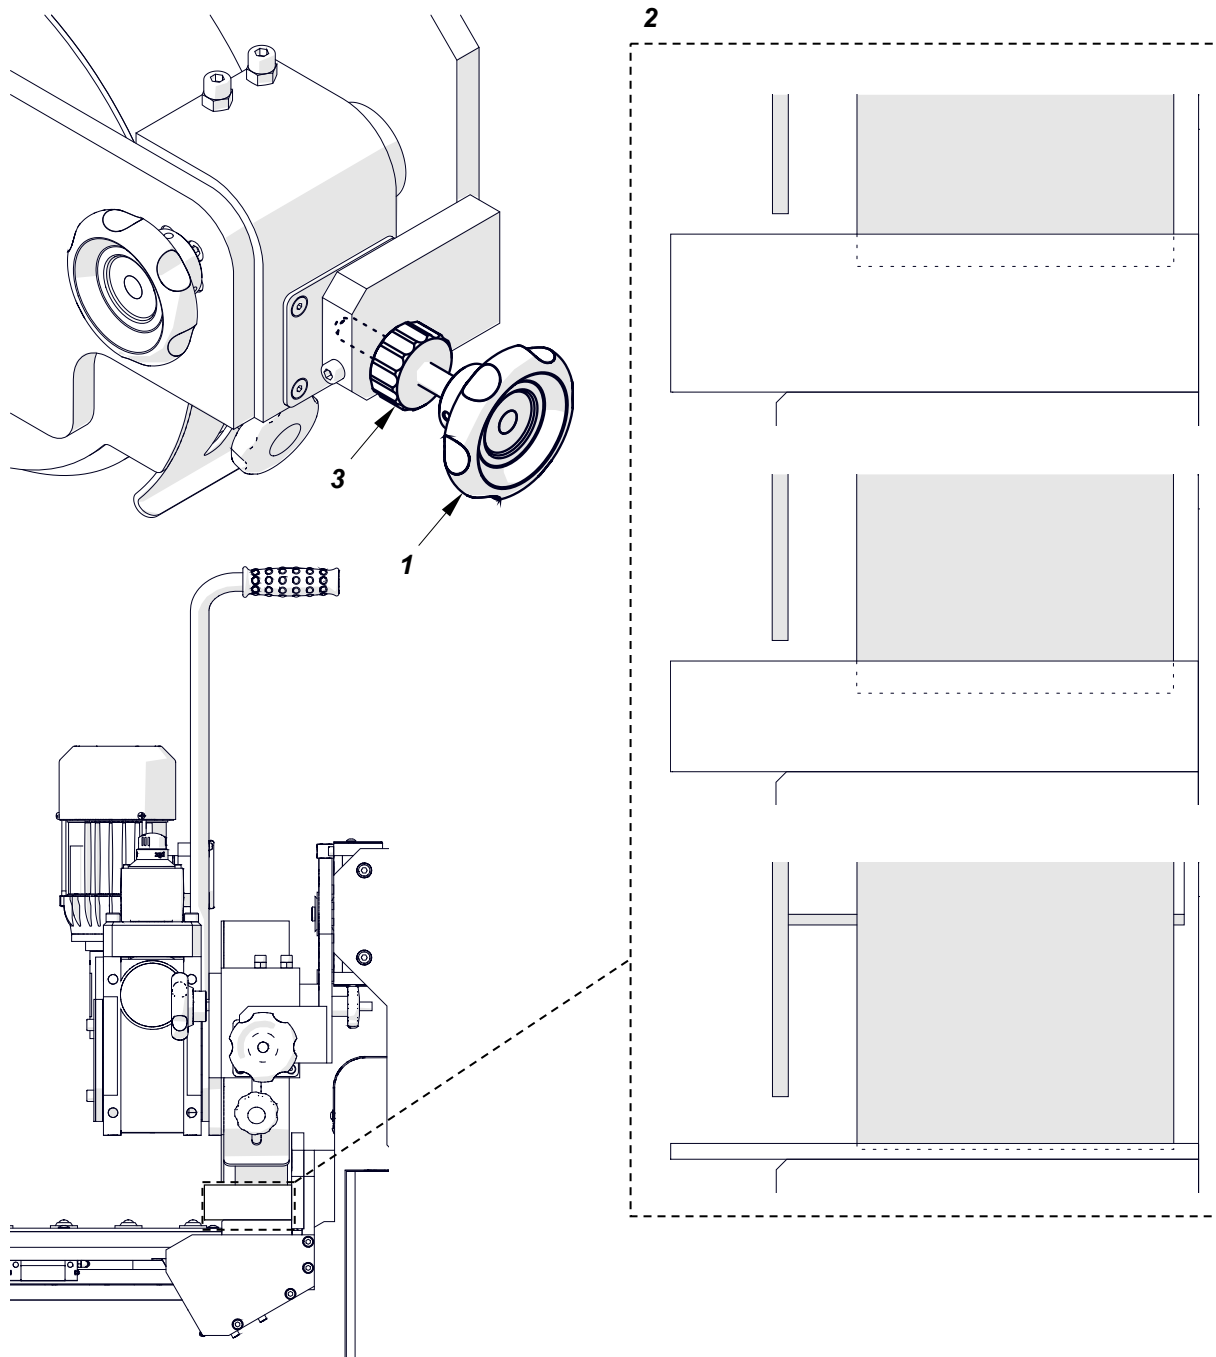
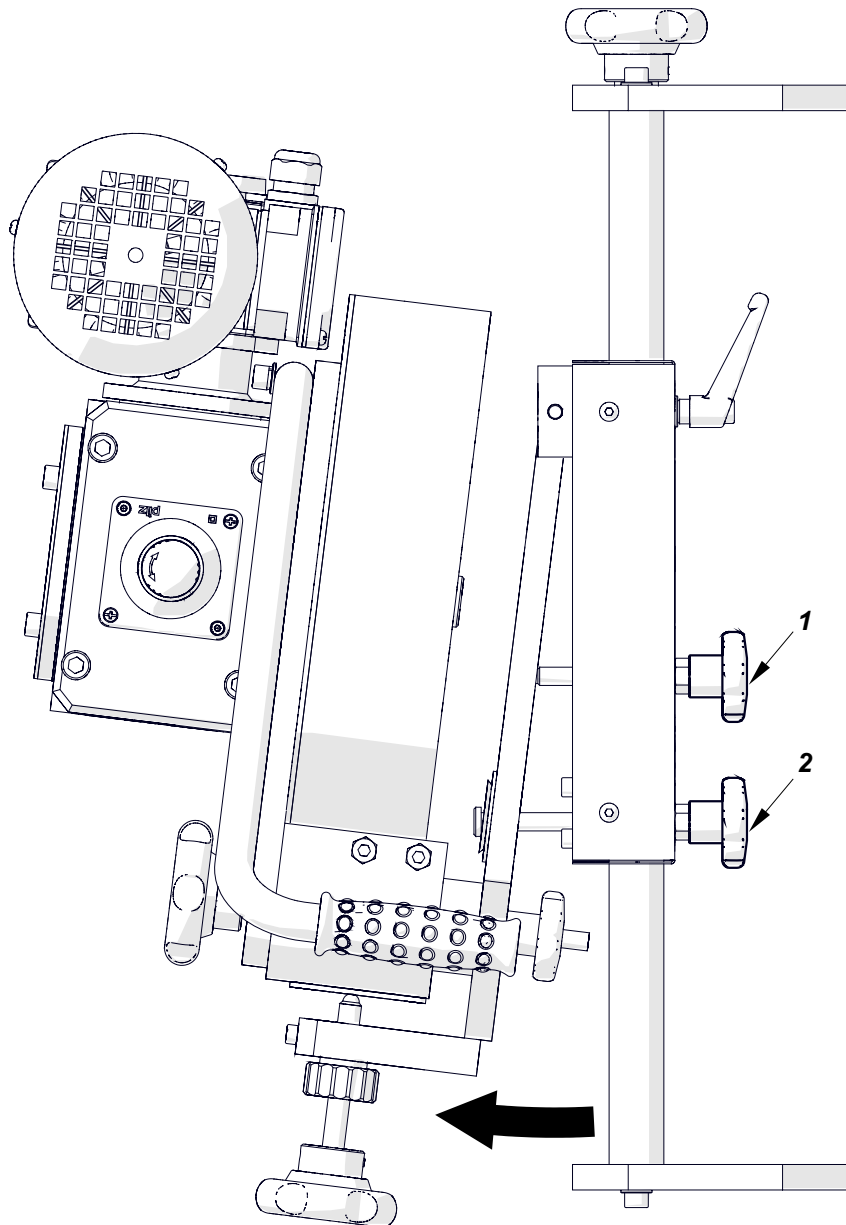
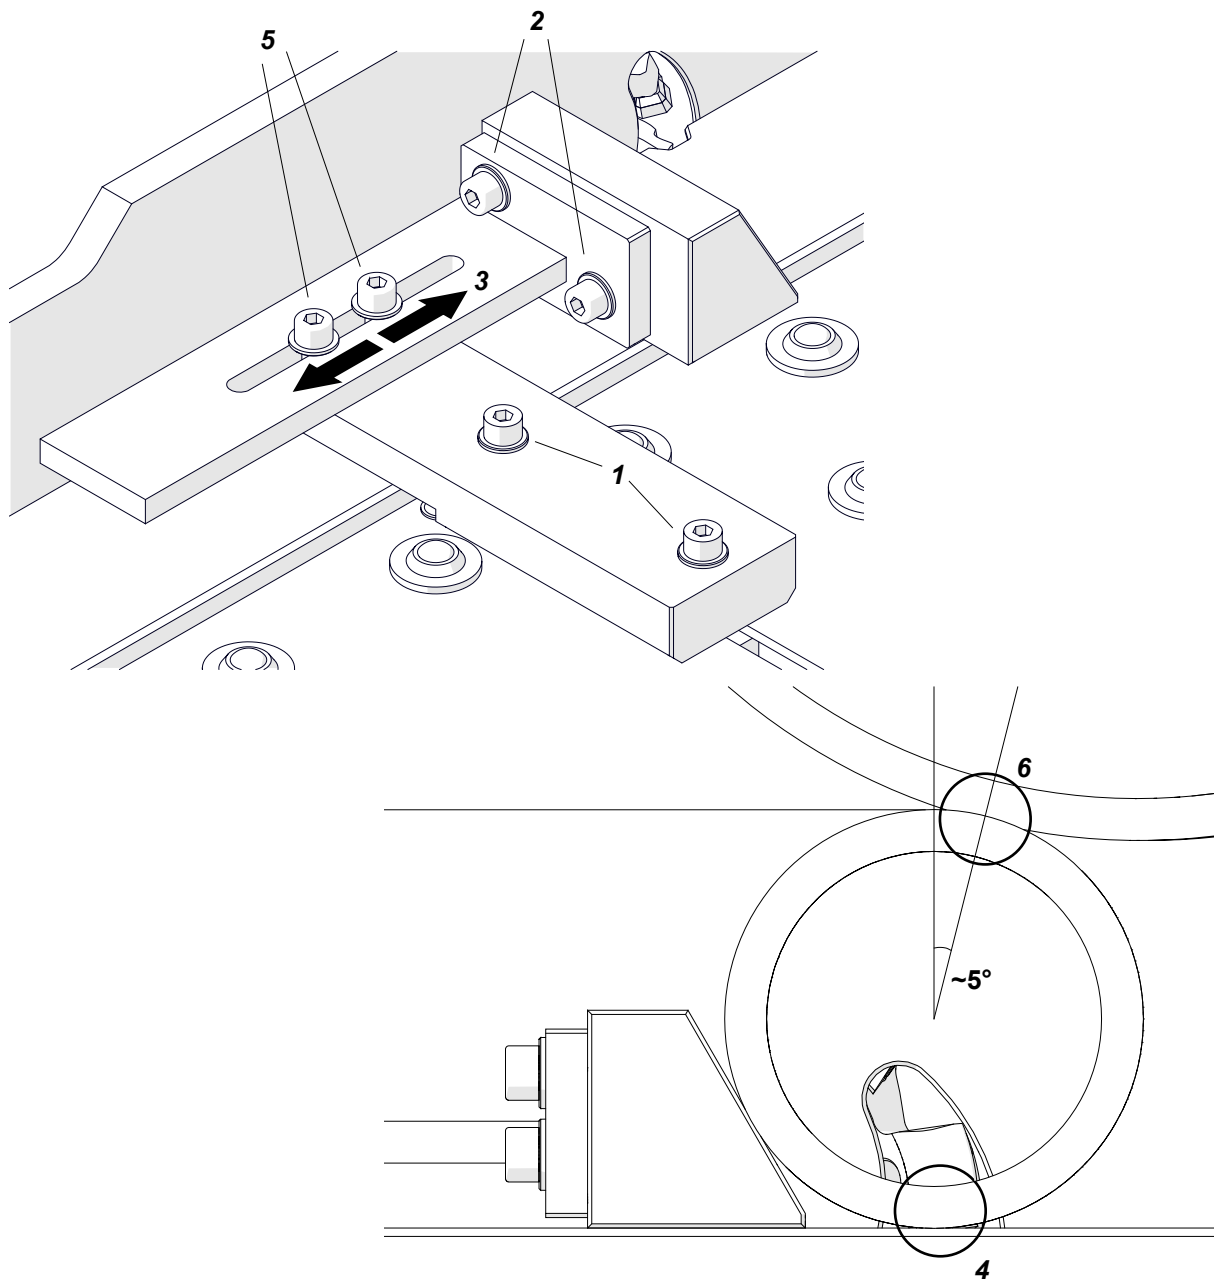

Fig. 9. Setting the feed wheel height
Fig. 10. Tilting the feed unit
Fig. 16. Adjusting the attachment
Use the knob (1, Fig. 9) to set the feed wheel at such a height so that the workpiece is firmly pressed to the horizontal base (2) during rotation of the feed wheel. Then, use the nut (3) to lock the knob in this position.
To ensure that the workpiece is sufficiently pressed to the vertical base, use the knobs (1, 2, Fig. 10) to tilt the feed unit. Do this when milling narrow workpieces or after moving the vertical base away from the horizontal base.
Make sure that the attachment is in contact with the vertical base and horizontal base. Then, use the 6 mm hex wrench to tighten the screws (1, 2, Fig. 16). Next, adjust the attachment so that (3) the bottom of the pipe is as close to the milling spot as possible (4) and tighten the screws (5).
Set the required bevel angle and milling head penetration (Fig. 6, 7, 8), and tilt the feed unit by about 2° (Fig. 10). Next, set the height feed wheel height and adjust the wheel (Fig. 9, 11) so that the pipe is pressed to the attachment and horizontal base when the feed wheel turns (6, Fig. 16).